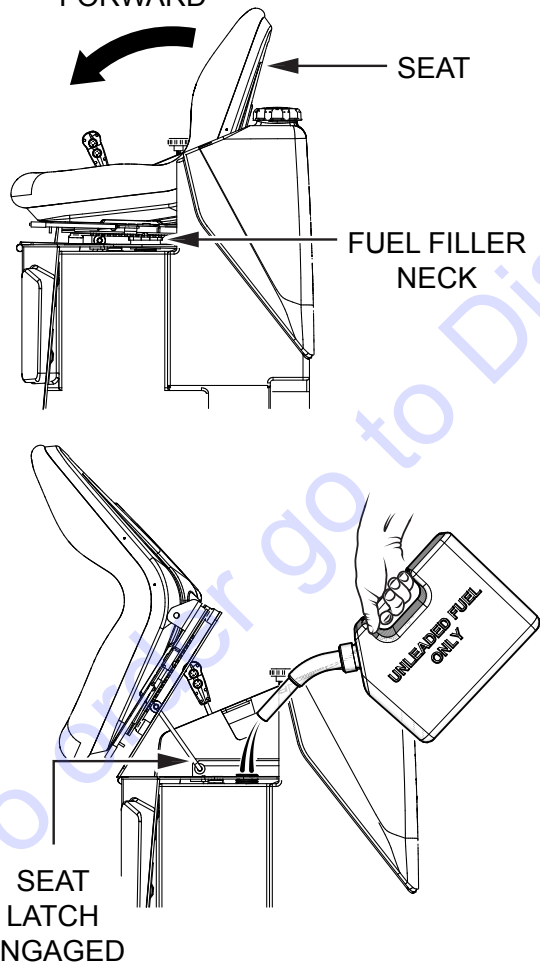

Figure 11. Fuel Tank Access
2. Tilt the operator's seat (Figure 11) forward to gain access to the fuel tank. The seat is equipped with a latch that keeps the seat locked in place when tilted forward.